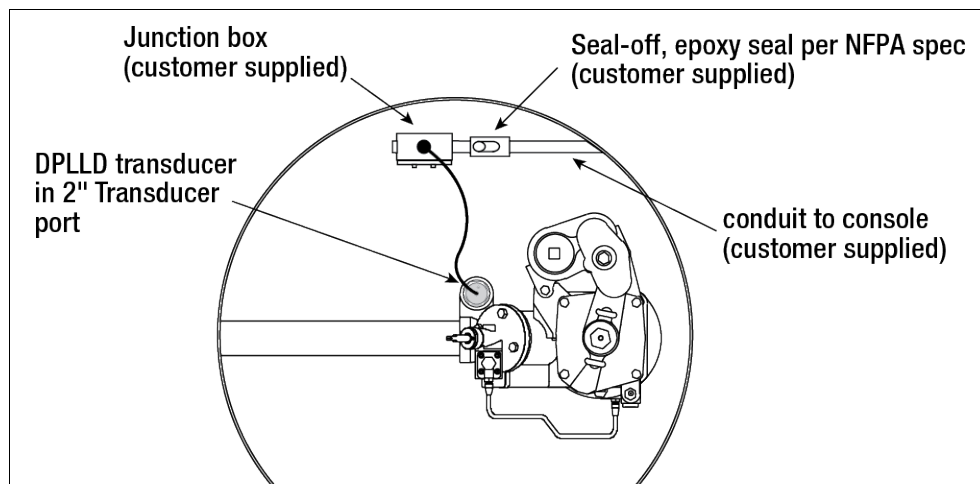

Figure 13. Example DPLLD Installation In A Red Jacket Maxxum Big-Flo Pump
3. Remove the cap from the 2-inch Transducer port next to the 3-inch discharge port. Thread the DPLLD transducer into the transducer port (see Figure 13).